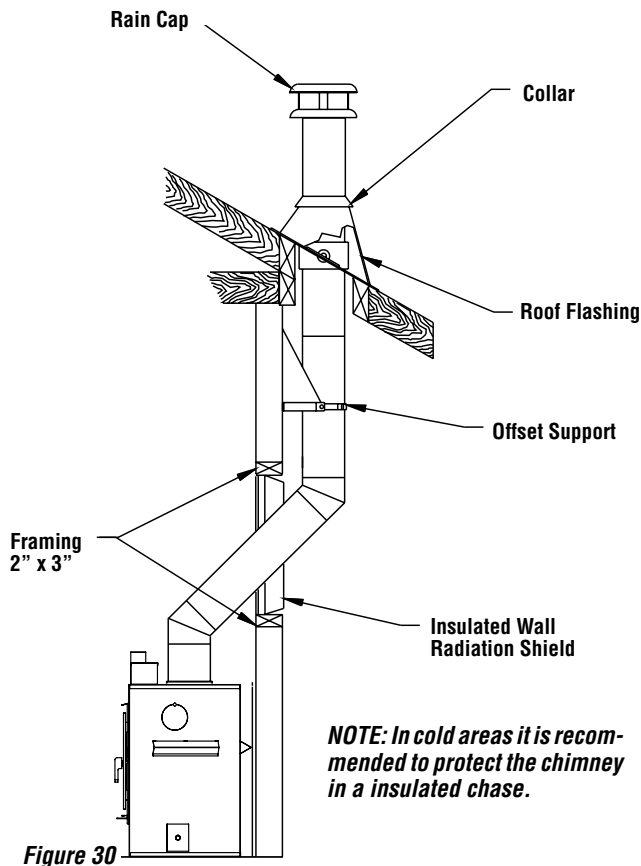

Figure 30
1. Install the first elbow; turn it in the required direction. Fasten it to the chimney with the three (3) 1/2" (12 mm) metal screws provided with the elbow.
2. Install the necessary chimney lengths to achieve the required offset. Lock the chimney lengths together: it is recommended to use three (3) 1/2" (12 mm) screws. If the offset length is made of two (2) chimney lengths or more, use an offset or roof support halfway up the offset. If penetrating a wall, install a wall radiation shield (see **Figures 30 and 31**).
3. Use another elbow to turn the chimney vertically. Secure the elbow, using three (3) 1/2" (12 mm) screws (provided with the elbow).